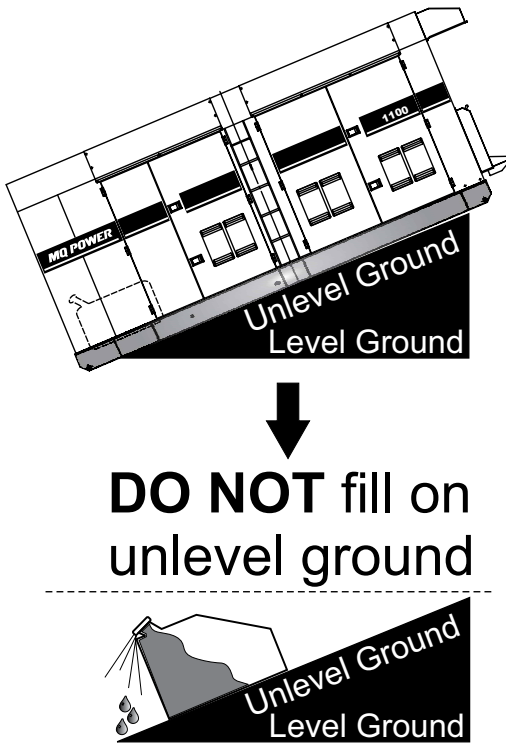

Figure 18. Only Fill on Level Ground
1. **Level Tanks** — Make sure fuel cells are level with the ground. Failure to do so will cause fuel to spill from the tank before reaching full capacity (Figure 18).